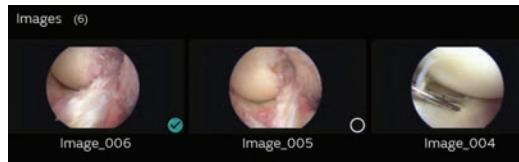

Figure 55. Circle with a Check Mark
2. Tap the media object(s), a circle with a check mark displays in the lower right corner of an Individual, or multiple images (Figure 55).